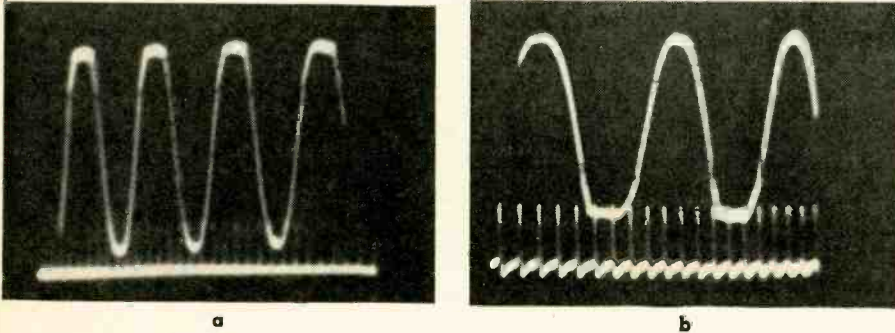

Fig. 4—Timing scales on scope screen for frequency calculations: a—10-ke; b—100-ke; c—block diagram of test setup.
4. Providing timing scales on the oscilloscope face with the use of a frequency standard, as shown in Fig. 4.